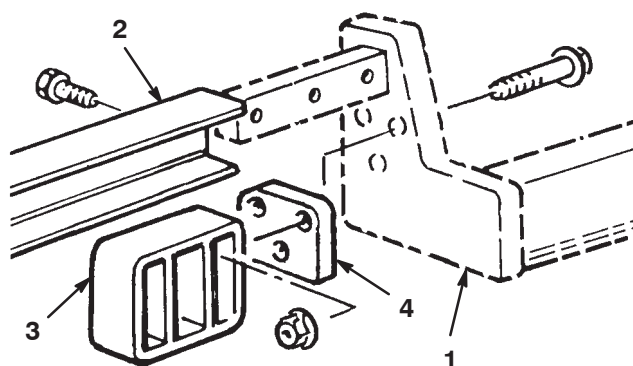

Figure 5
3. Mount a rear cradle to each lift arm with 3 capscrews (3/8 x 2 in.), spacers, and flange nuts as shown in Figure 5.